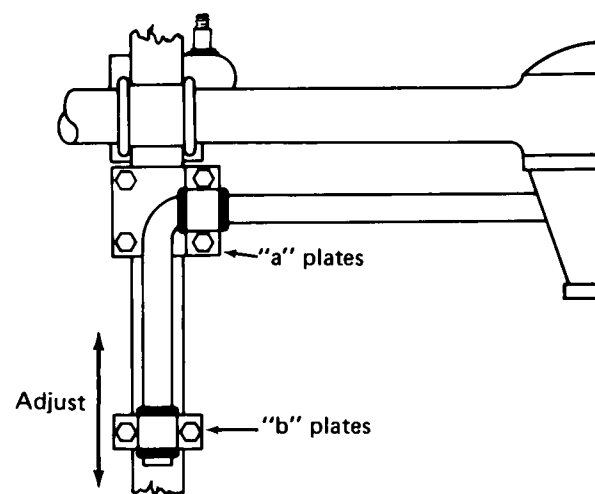

Fig. 26
10. Place the specially fabricated sway bar mounting plates to the springs as shown in Fig. 26.
11. Attach the sway bar to the mounting plates using the Datsun 510 front sway bar mounting brackets. (Fig. 26).
Note: The effective stiffness of the sway bar can be varied by moving the "b" plates as shown in Fig. 26